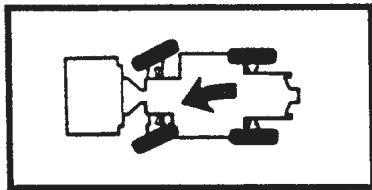

Figure 5-8. Front Wheel Only Steering
1. **Front wheel only** (steering mode selector in center position): Front wheel steering is normally used only when traveling on roads. Refer to Figure 5-8.